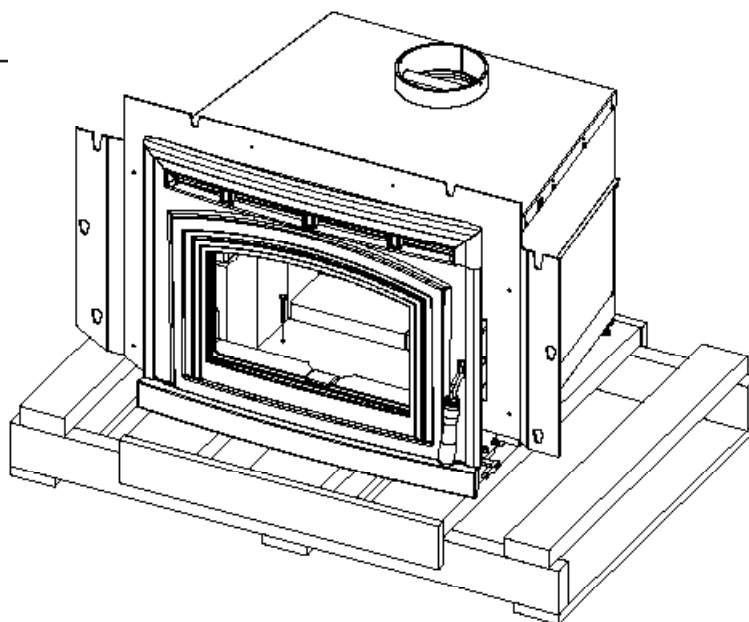

Figure 6: Bolts to remove.
- Remove the two lag bolts (shown in Figure 6) that secure the unit to the pallet from inside the firebox.